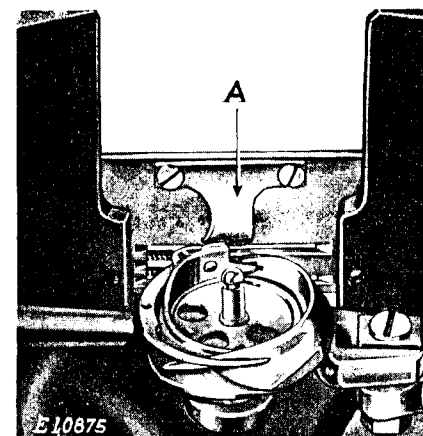
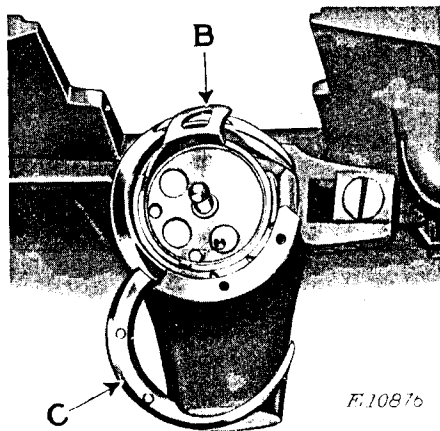

Fig. 19. Bobbin Case Base Correctly Engaged with Bobbin Case Base Stop Underneath Throat Plate
Fig. 20. Hook Gib Open for Removal of Bobbin Case Base
When returning the throat plate to its position be sure to have the bobbin case base stop (A, Fig. 19) on the underside of the throat plate engage the position finger (B, Fig. 20) on the bobbin case base, as shown in Fig. 19.
To remove the bobbin case base, remove the bed slide, throat plate and bobbin case. Take out the three hook gib screws, remove the hook gib (C, Fig. 20) and remove the bobbin case base (B, Fig. 20).
After replacing the bobbin case base replace the hook gib (C) and fasten it with the three screws. When replacing the throat plate, be sure to have the position finger (B, Fig. 20) on the bobbin case base engage the bobbin case base stop (A, Fig. 19) on the underside of the throat plate.